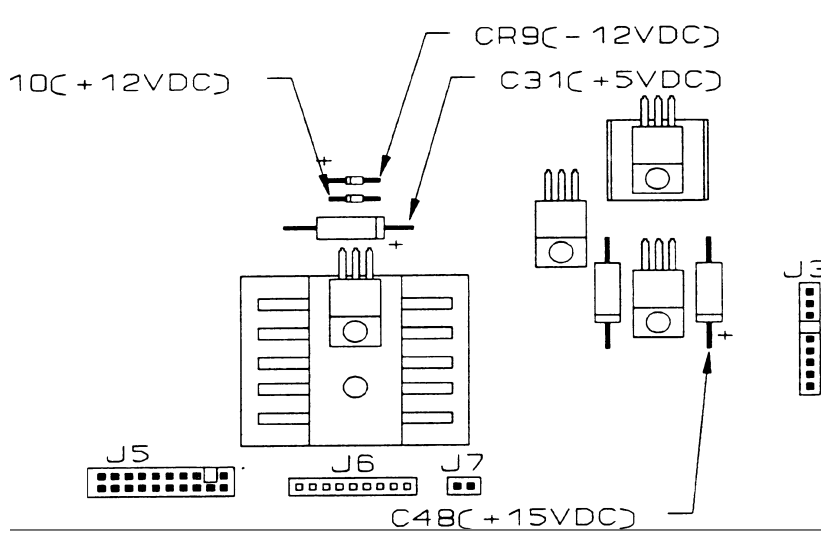

Figure 7-1: Main PCB DC Voltage Checks
\*All DC voltages listed are referenced to chassis ground (minus meter lead to chassis ground). Refer to Figure 6-1 in Section 6.1.1. for connector locations, Figures 7-1 and 7-2 for component locations.
- 3 - **+5 VDC:** Regulated control logic supply, (plus side of capacitor C31, Figure 7-1).
- 5 - **+15 VDC:** Analog circuitry supply, (plus side of capacitor C48, Figure 7-1).
- 8 - **+12 VDC:** JN Port RS-232 Supply, (plus side of diode CR10, Figure 7-1).
- 9 - **-12 VDC:** JN Port RS-232 Supply, (minus side of diode CR9, Figure 7-1).
- 10 - **+39 VDC:** Display Voltage, single display versions only, (A5 pin 10, Figure 7-1).
- 6 - **+12 VDC**: JW and JY Port RS-232 Supply, (Q7 pin 2, Figure 7-1).